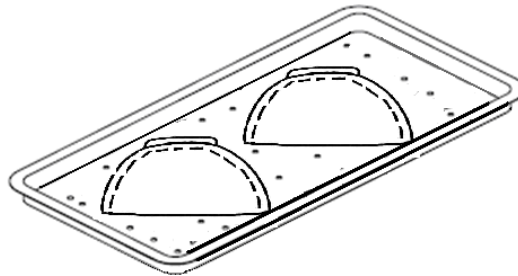

Figure 6
9. Round pans, trays, pots pan, etc., should be opening upside down as shown in in Figure 6.